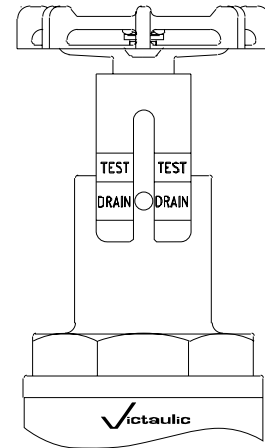

Figure 3
2. Open the valve to the “drain” position by turning the handle counterclockwise until the yellow indicator pin is within the red “drain” area, as shown in Figure 3.